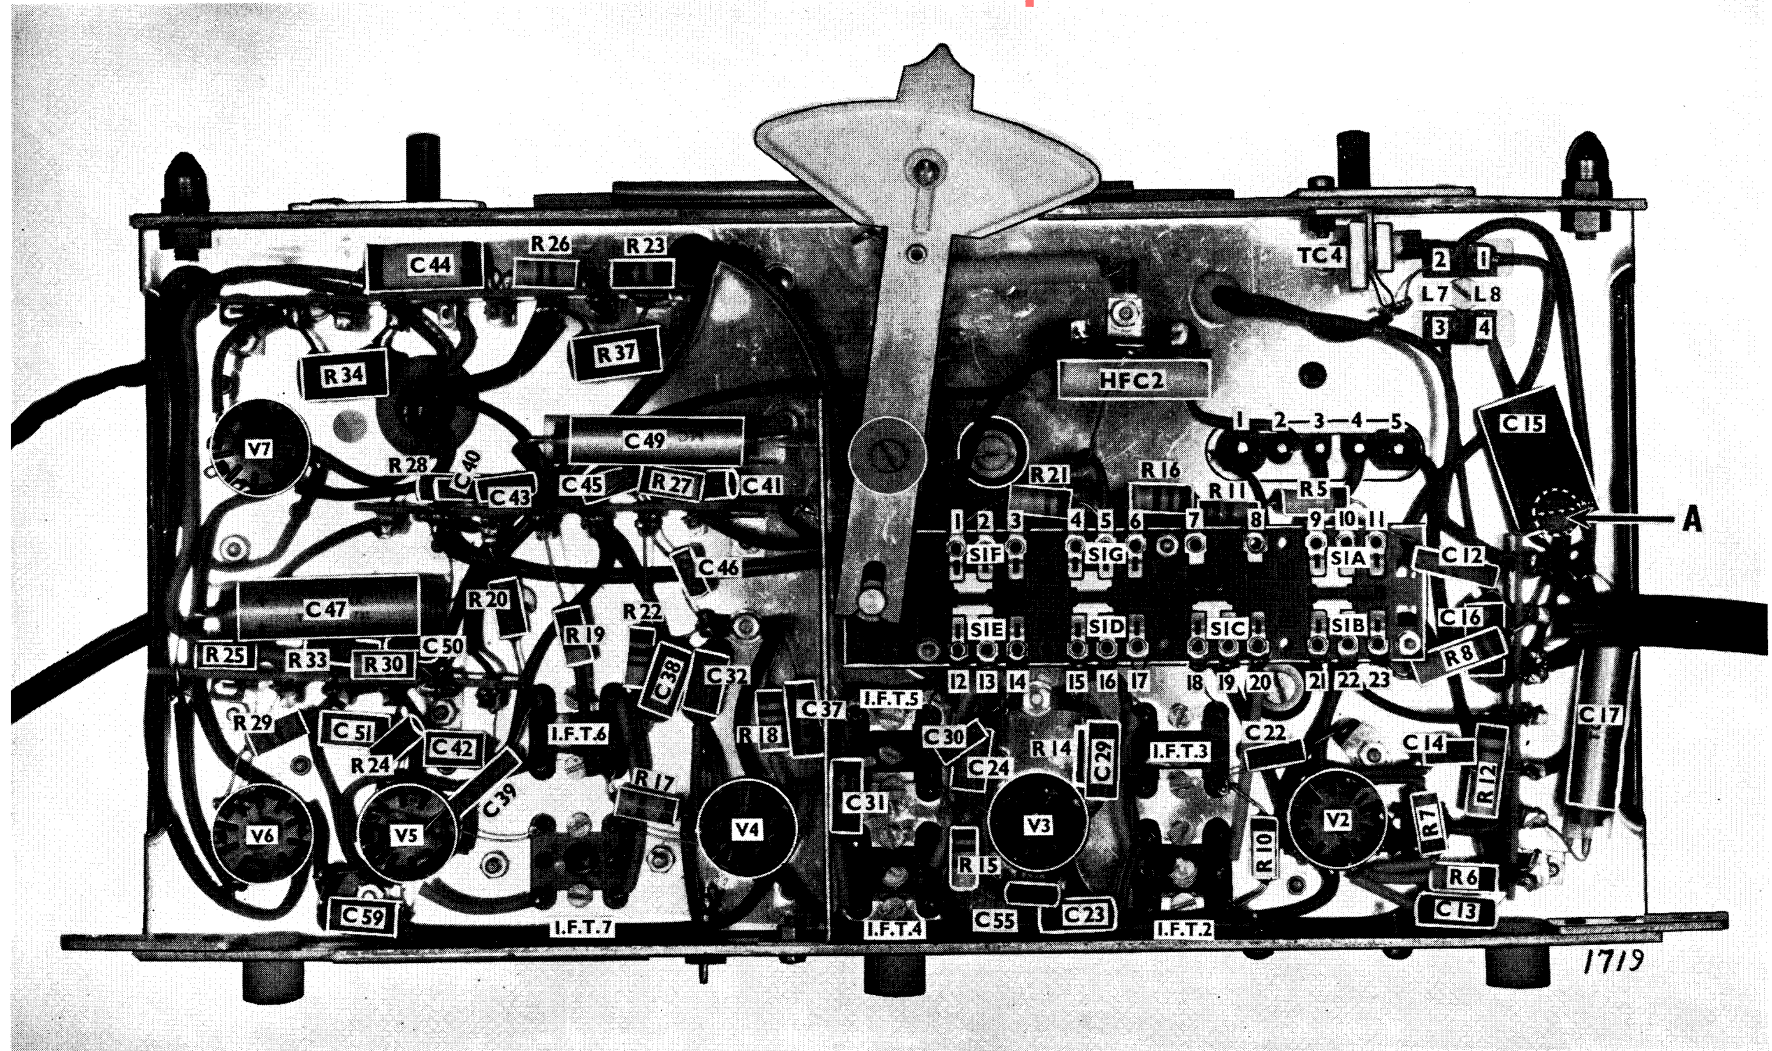

Fig. 2—Under View of Chassis. See Fig. 1 for number references
See Figs. 2 and 6 for number references to coils and switches.
- (7) Remove the three bolts holding the box to the L-shaped bracket (Fig. 4) and remove the bolt (A—Fig. 2) from beneath the chassis.
CONNECTIONS TO V.H.F. BOX (FIG. 2)